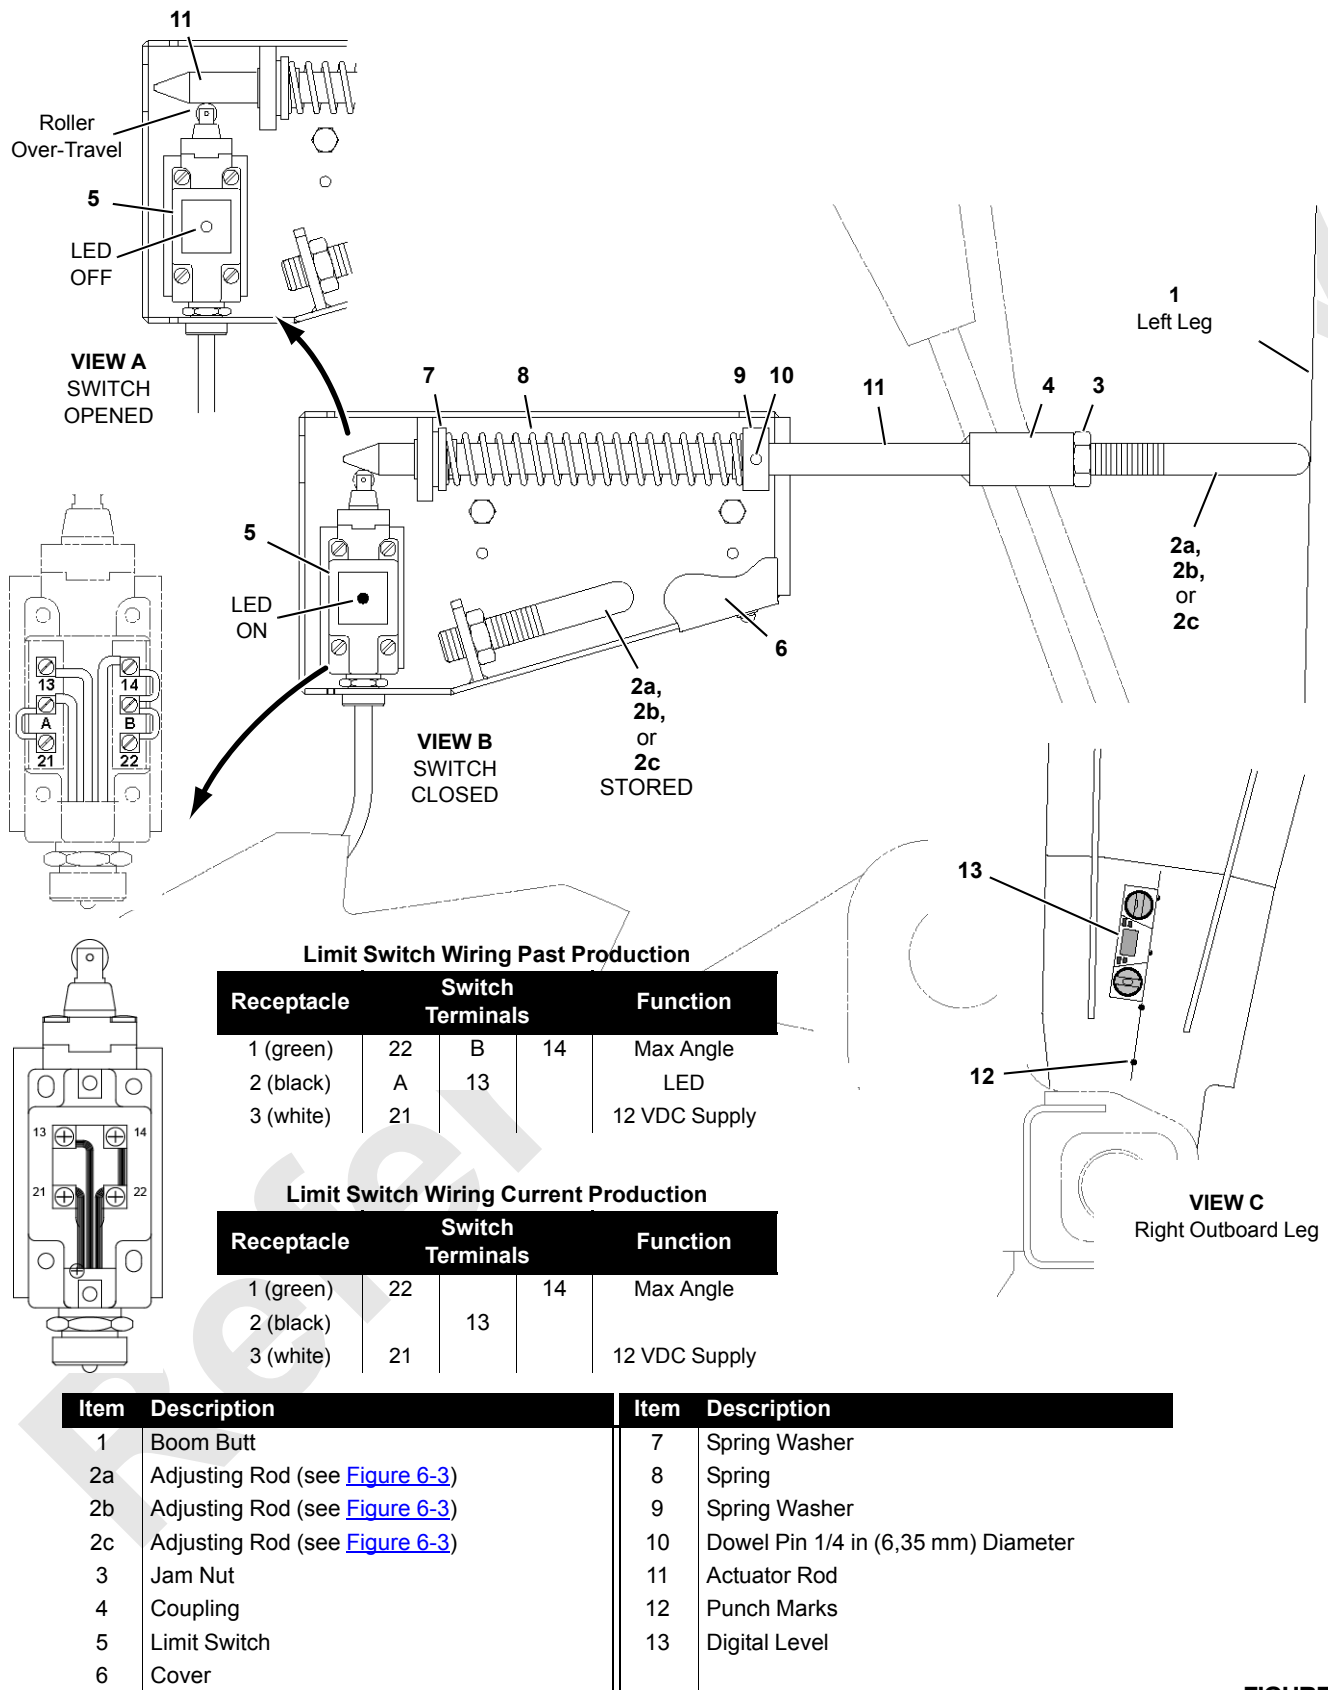

FIGURE 6-4
See Figure 6-4 for the following description.
2. Have an assistant push the adjusting rod (Figure 6-4) in to trip the boom stop limit switch open.
See Figure 6-4 for the following procedure.
See Figure 6-4, View B for the following procedure.